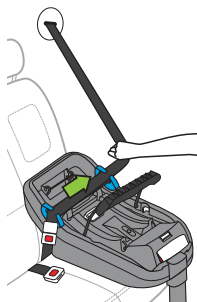

Figure 61a
- Remove slack from vehicle belt around Base by pulling the shoulder belt (the top layer of belt on the Base) out to the side and hold, as shown in **Figure 61a**.